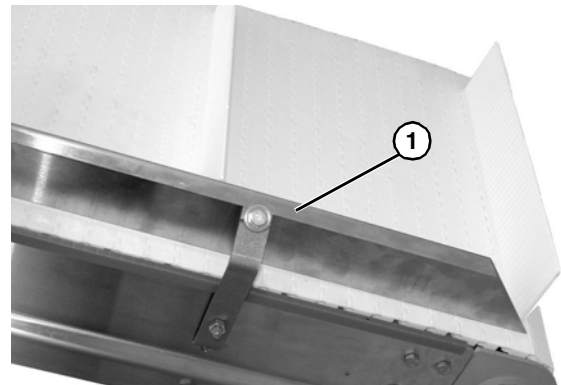

Figure 31
1. Remove guides (Figure 31, item 1) when required.